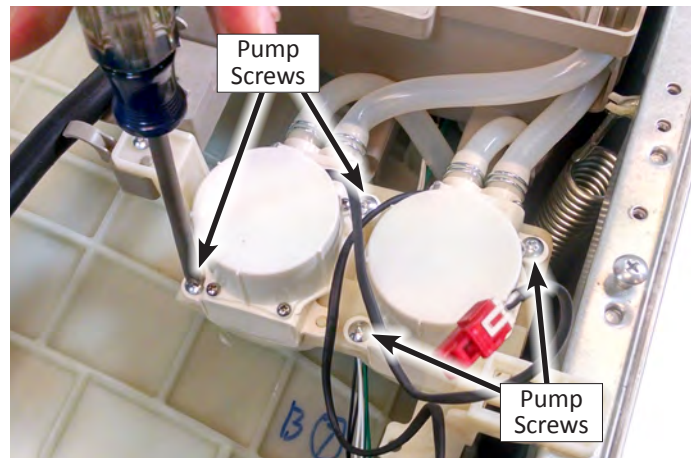

Figure 3
8. Remove the two (2) Phillips screws securing the metering pump to the dispenser assembly (see Figure 3).